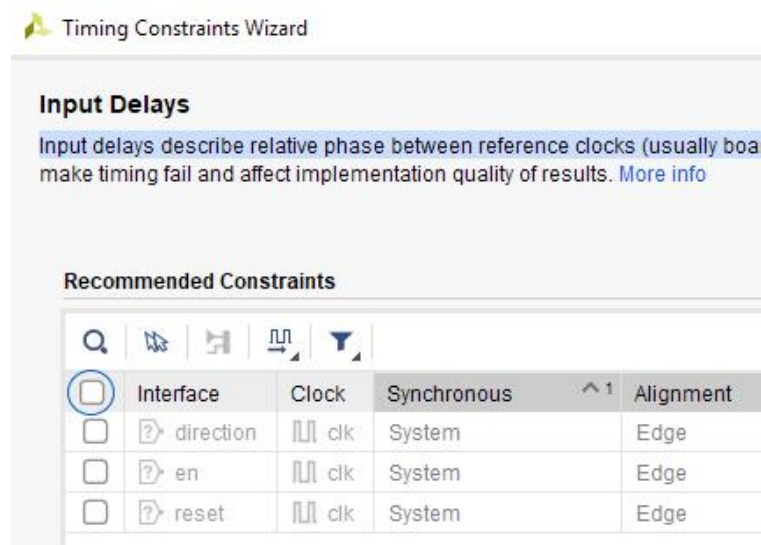

Figure 31
11. Vivado automatically recommends constraining the input signals **direction**, **en** and **reset**. The aim is to ensure input signals are stable around the clock edge and do not violate the setup and hold times of FPGA flip-flops in their internal paths, synchronizing the external clock with the internal FPGA clock. However, in our case, these signals are not synchronized with an external clock. They are all asynchronous inputs signals, coming from switches or buttons and therefore, no synchronization is needed. To unselect all signals, uncheck the top left box (Figure 31) and click **Next**